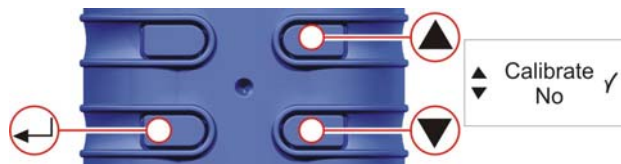

Figure 22 Calibrate Screen
H. CALIBRATE YES / NO (Default Calibration / Tuff Plus and Pro Only) (Fig.: 22)